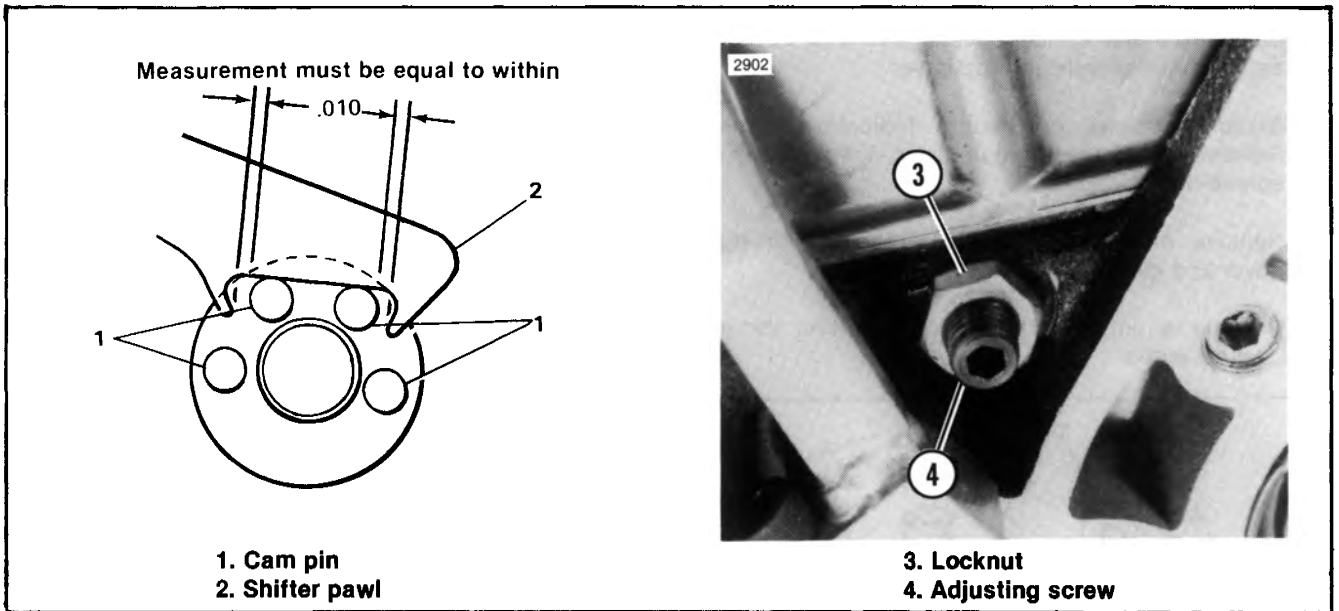

Figure 7-2. Gear Engagement Adjustment
Gear Engagement (Figure 7-2)
See Figure 7-2. The spring pressure you feel defines the limits of travel of the shifter pawl (2) against the cam pins (1).
- 3. Locate the shifter pawl adjusting screw that extends from left side of transmission case behind the primary chaincase. Loosen locknut (3) and adjust allen bolt (4) in 1/4 in. turn increments or less (either clockwise or counterclockwise) until spring pressure is equal on both side of shift lever travel. Check adjustment again after tightening locknut (3) to be sure spring pressure is equalized.